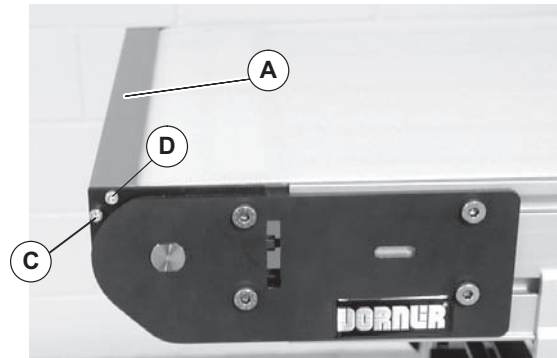

Figure 31
Periodically, remove two screws (Figure 31, item C and D) on each side of conveyor and remove transfer plate (A). Clean any debris from between plate and conveyor belt. Replace transfer plate (A). Tighten screws (C and D) to 50 in-lbs (5.6 N-m).